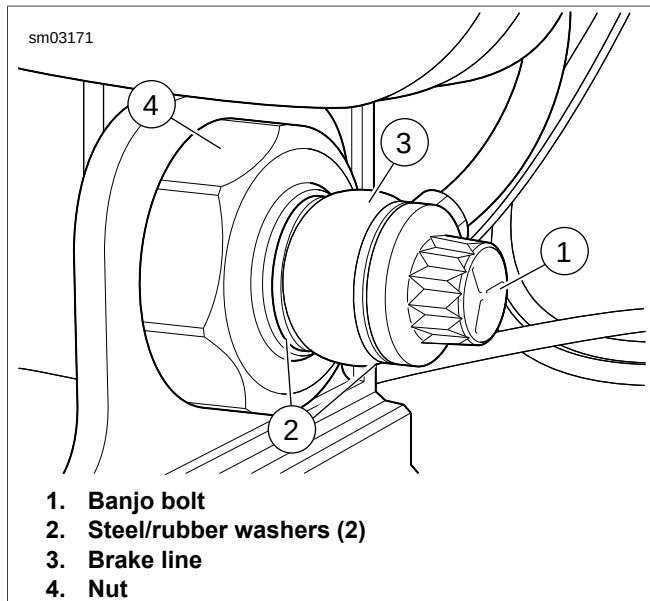
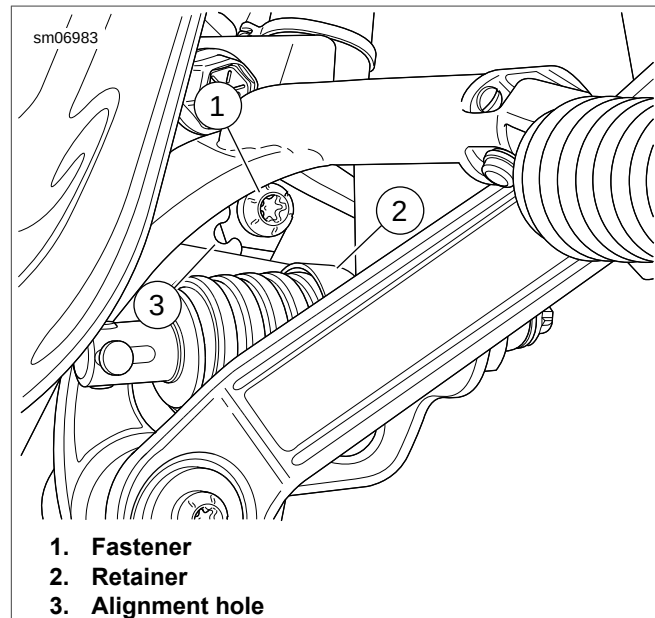

Figure 2-60. Rear Brake Control: Front Mount
Figure 2-61. Master Cylinder Retainer
1. See Figure 2-61. Remove fastener (1) and retainer (2).
2. See Figure 2-60. Remove banjo bolt (1) and two steel/rubber washers (2) to disconnect brake line from master cylinder. Discard washers.
3. Remove nut (4) to free assembly from mounting bracket.
2. Install master cylinder assembly on brake pedal. Install washer (5) and **new** cotter pin (4) on clevis pin (6).
3. See Figure 2-60. Fit collar on cartridge body into hole of mounting bracket. Apply LOCTITE 243 MEDIUM STRENGTH THREADLOCKER AND SEALANT (blue) to threads of nut (4). Install nut on cartridge body until finger tight. Tighten to 30-40 ft-lbs (40.7-54.2 Nm).
4. Lubricate **new** steel/rubber washers (2) with DOT 4 BRAKE FLUID. Position **new** steel/rubber washers on each side of brake line (3). Insert the banjo bolt (1) through washers and fitting. Tighten to 17-22 ft-lbs (23.1-29.9 Nm).
5. See Figure 2-61. Install retainer (2) into position. Make sure tab on retainer is in alignment hole (3). Install fastener (1) and tighten to 29-34 ft-lbs (39.4-46.1 Nm).